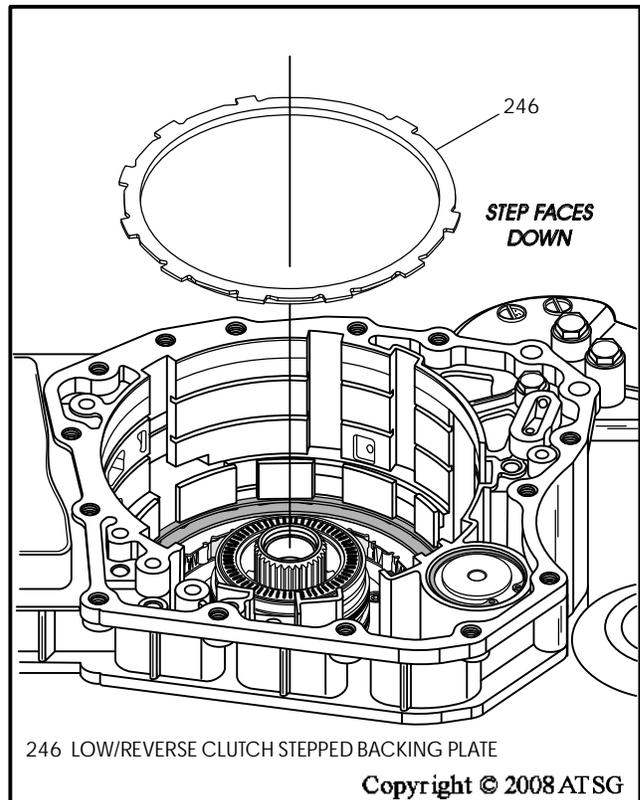

Figure 188
4. Install the low/reverse clutch stepped backing plate, as shown in Figure 188.
Note: Flat side faces up, step faces down, as shown in Figure 188.